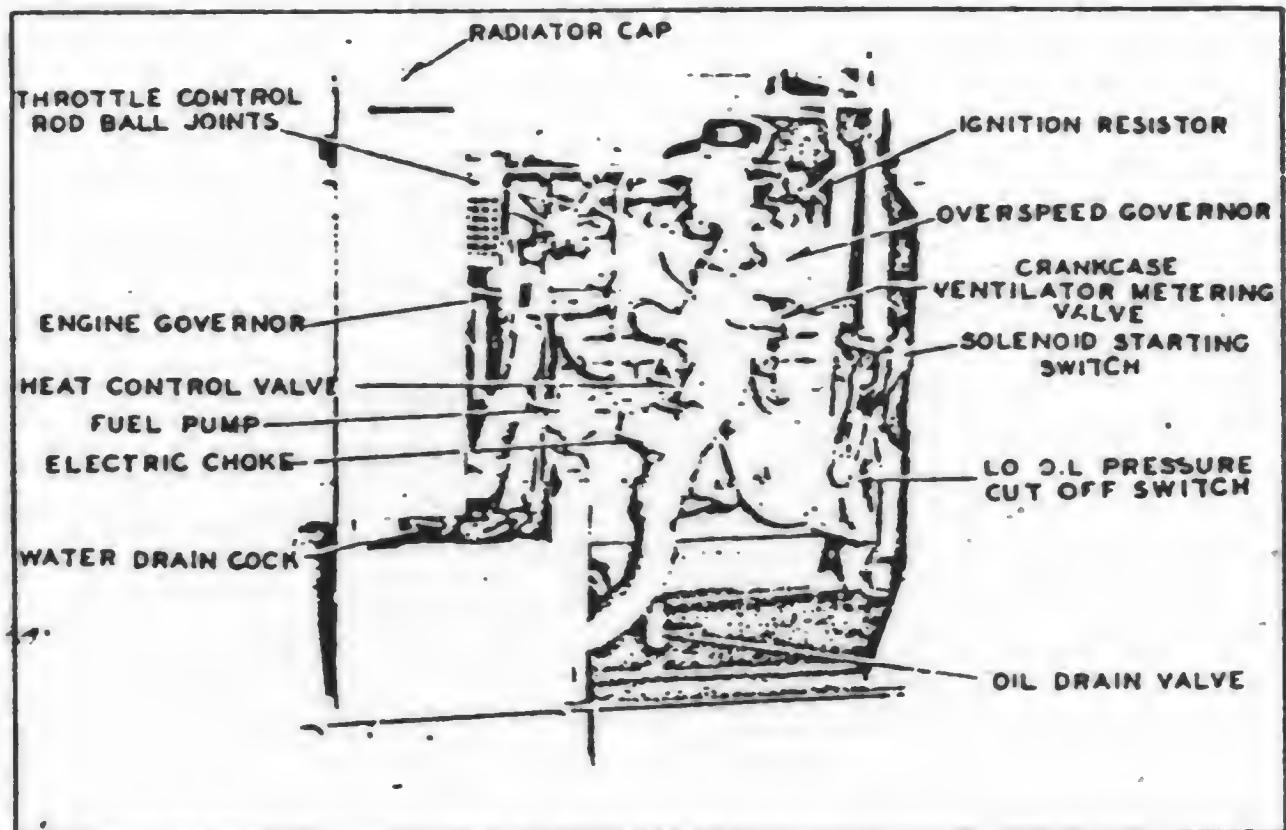

FIG. 5 RIGHT SIDE OF ENGINE
a. **Design.**—The engine (Fig. 5) is of the 4-cylinder, 4-cycle, L-head, water cooled, automotive type. It furnishes the power which drives the main generator to which it is direct-connected. It also drives certain necessary accessory equipment. It is designed to operate on regular gasoline of 70 to 80 octane.
c. **Miscellaneous Control Equipment.**—The following control devices are located at different places on the power unit. (See Figs. 5 and 6).
(19) **Fuel Pump.**—By means of the lever on the side of the fuel pump, (Fig. 5), pump the carburetor bowl full of fuel. If the engine camshaft sets so that the pump diaphragm is in its lowest position, the lever will not operate the pump. In that case insert the hand crank and crank the engine one complete revolution. Then the pump can be operated by the lever. Always push the lever down after pumping. If left up, the pump will not be operated by the engine. Examine the entire fuel system for leaks and correct any found.